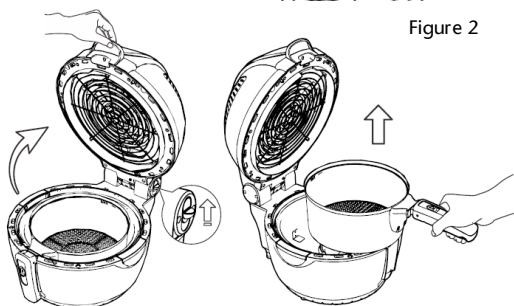

Figure 2
4. Lift the Lid Handle (3) and open the Top Cover (9) to the position shown in Figure 2. The Top Cover (9) will remain open and locked into place. Grasp Basket Handle (5) to lift out Basket (13). (See Figure 2)